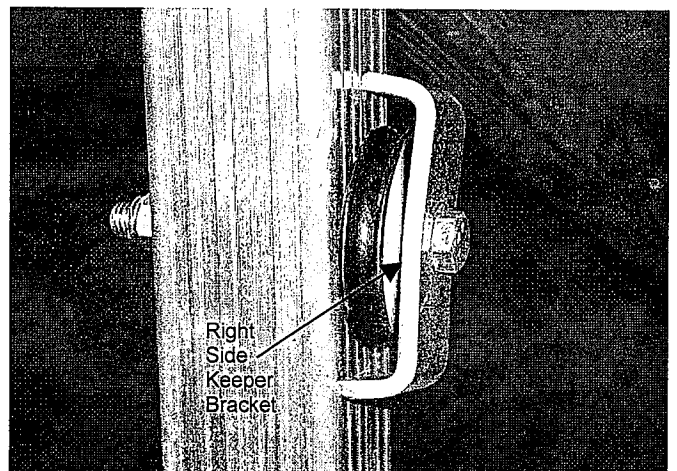

FIG. 19
3. Locate the side frame leg that the winch is going to be mounted on. Attach the nylon pulley with keeper bracket (See FIG. 19).